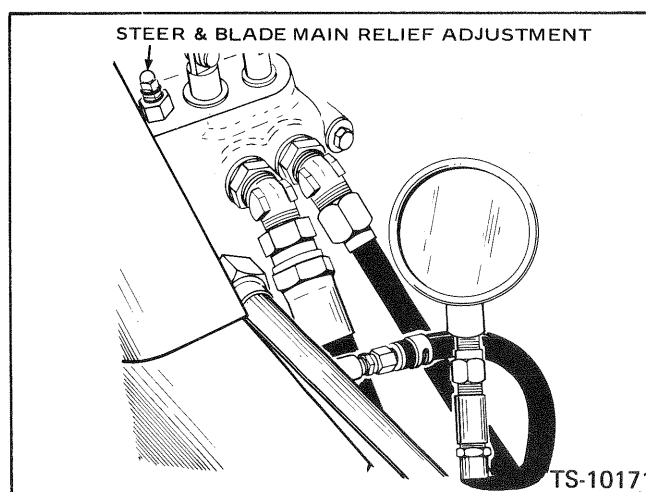

Fig. 11-2 Adjust and Check Main Relief Valve
4. Attach a hydraulic gauge of at least 3,000 p.s.i. capacity to the hose fitting on the steer blade control valve supply tube. Pressure readings for all the valves are taken from this pressure port. Fig. 11-2.
6. Put the blade into its full UP position and hold. The gauge should register 2,300 p.s.i. Fig. 11-2. If not, adjust the relief valve on the steer blade control valve by removing the acorn nut on the top of the valve, loosening the jam nut and adjusting the set screw until 2,300 p.s.i. registers on the pressure gauge.
7. Put the arch into its full UP position and hold. The gauge should register 2,000 p.s.i. Fig. 11-2. If not, adjust the relief valve on the arch and grapple control valve by removing the acorn nut, loosening the jam nut and adjusting the set screw located on the forward side of the valve assembly until 2,000 p.s.i. registers on the pressure gauge. Fig. 11-2.